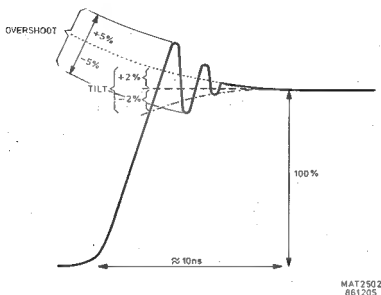

Figure 9.5 HF-pulse response.
- Adjust the square-wave response of Ch. A (Ch. B) with R7512 and R7513 on unit A33 (R7712 and R7713 on unit A33) so that overshoot + ringing does not exceed $\pm 5\%$ during the first 10 nsec of the pulse. The tilt must not exceed $\pm 2\%$. Figure 9.5 explains this.